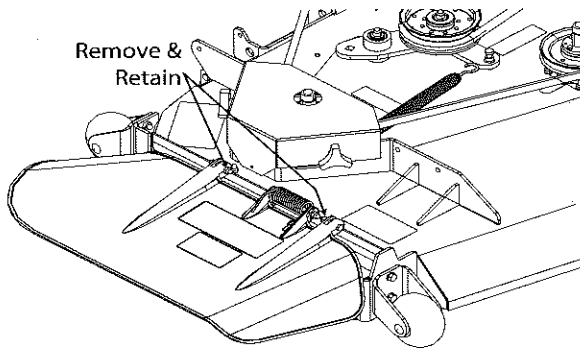

Figure 3-1. Removing the Discharge Chute
1. Remove the discharge chute from the machine. See Figure 3-1.